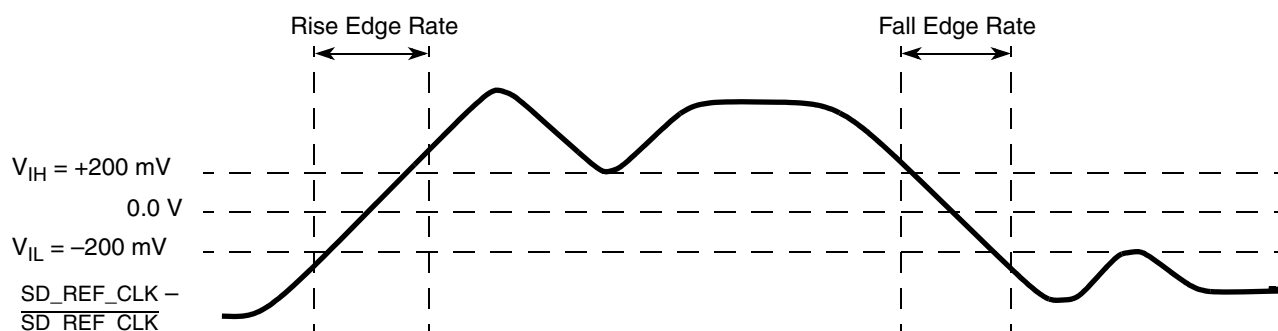

Figure 55. Differential Measurement Points for Rise and Fall Time
- Measured from -200 mV to $+200$ mV on the differential waveform (derived from SD_REF_CLK minus $\overline{\text{SD_REF_CLK}}$). The signal must be monotonic through the measurement region for rise and fall time. The 400 mV measurement window is centered on the differential zero crossing. See Figure 55.
Figure 55 shows the differential measurement points for rise and fall time.